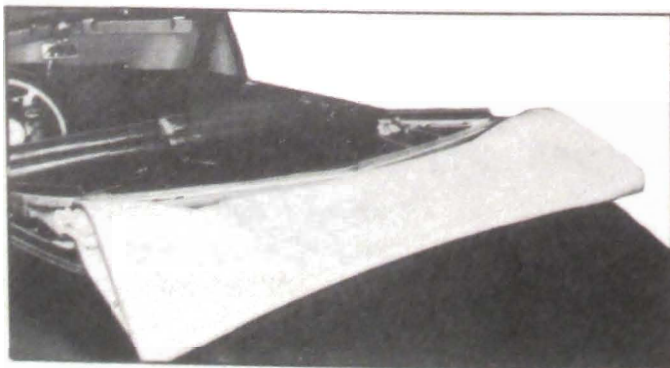

Figure 13-51—Top in Proper Position on Body Rear Panel
3. After top is lowered, raise it slightly by hand and pull the top material out from under the roof bow, so that it is in the position on the rear body panel shown in figure 13-51.